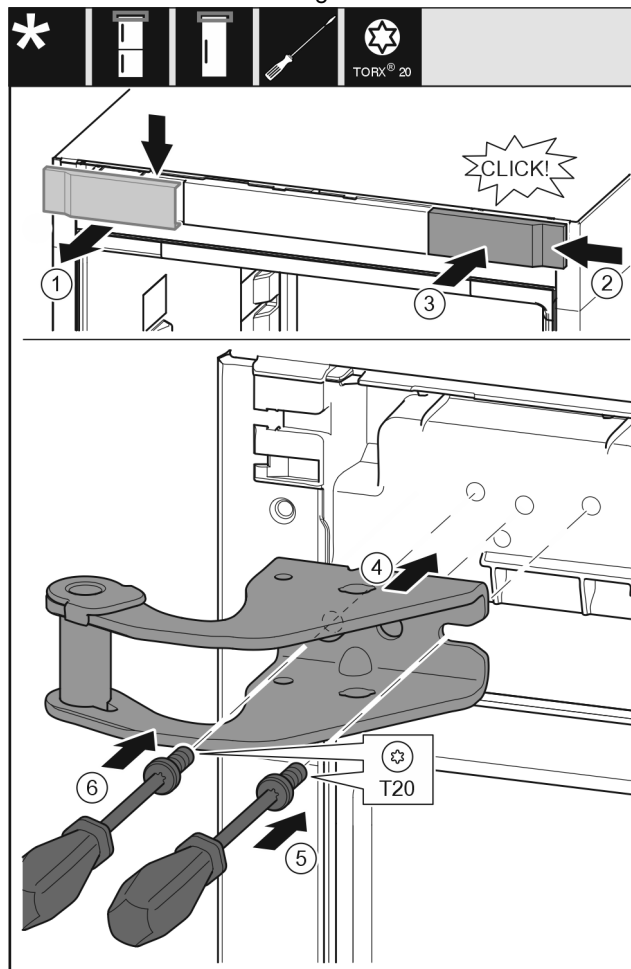

Fig. 11
- Take off the cover to the front from above. Fig. 11 (1)
- Rotate the cover 180° and clip onto the other side from the right. Fig. 11 (2)
- Latch the cover into place. Fig. 11 (3)
- ▶ Position the upper bearing bracket. *Fig. 11 (4)*
- ▶ Insert the screw with a T20 screwdriver and tighten it. *Fig. 11 (5)*
- ▶ Insert the screw with a T20 screwdriver and tighten it. *Fig. 11 (6)*